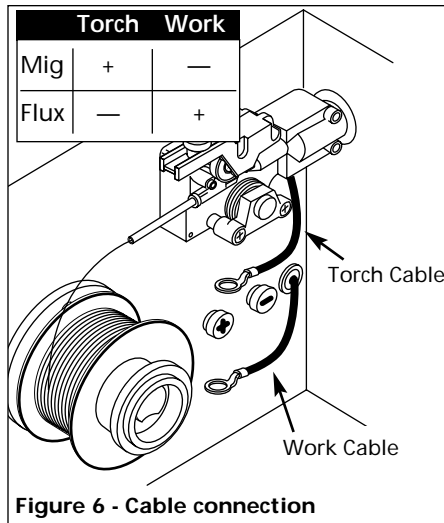

Figure 6 - Cable connection
- Locate red (+) and black (-) polarity connectors just below wire feed mechanism (See Figure 6).